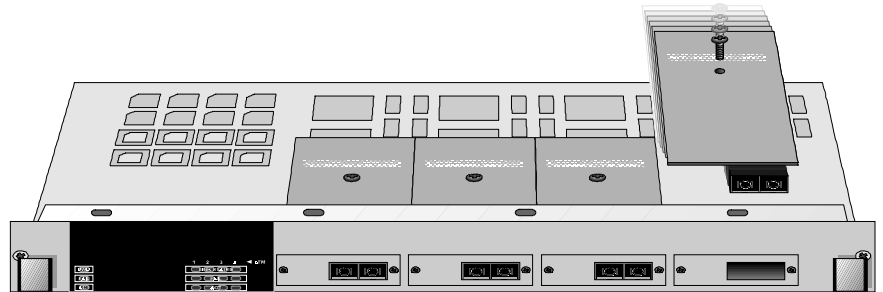

Figure 8 4-Port ATM Interface Module
- 2 Align each module with the front panel aperture as shown in Figure 8 and press down to engage the strip connectors on the underside of the module. Three screws anchor each module to its seat on the interface card. Interface openings reserved for future use should be covered with blank panels. Used interfaces should use the coax or optical panels as covers.